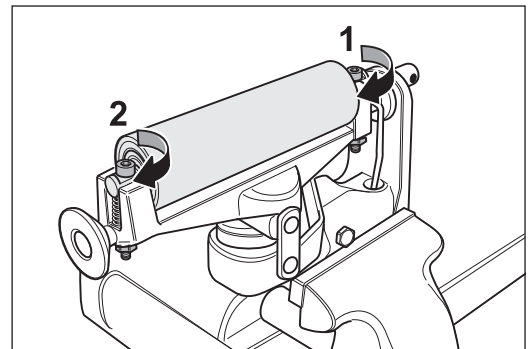
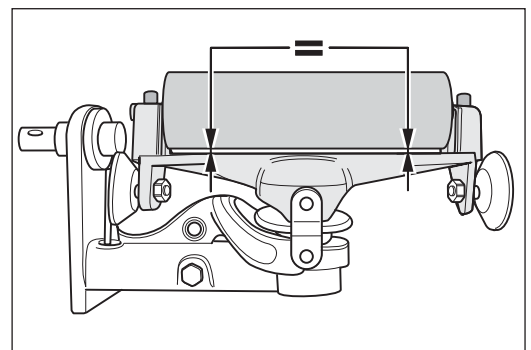

Fig. 53 Tighten the side without spring (1) and then the side with spring (2), so that ...
Fig. 54 ... the tensioning roller is positioned parallel to the top of the drive unit.
- 7 Tighten the screw of the unsprung bearing pedestal side (Fig. 53, 1).
- 8 Turn the screw on the sprung side of the tensioning roller (Fig. 53, 2) far enough so that the tensioning roller is positioned parallel to the upper part of the drive unit (Fig. 54).